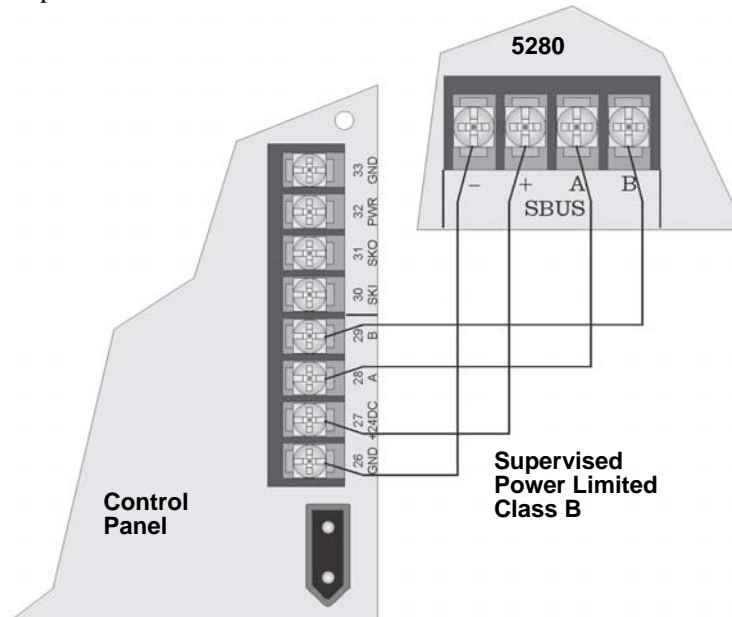

Figure 3-14 Model SK-5280 Connection to the Control Panel
Wire the SK-5280 as shown in Figure 3-14. Maintain a physical separation of one-half inch or more between field wires and connection points to prevent damage from transients.
3. Connect the SK-5280 to the SK-5208 control panel as shown in Figure 3-14.
4. Connect the SK-5280 to the SK-5208 control panel as shown in Figure 3-14.